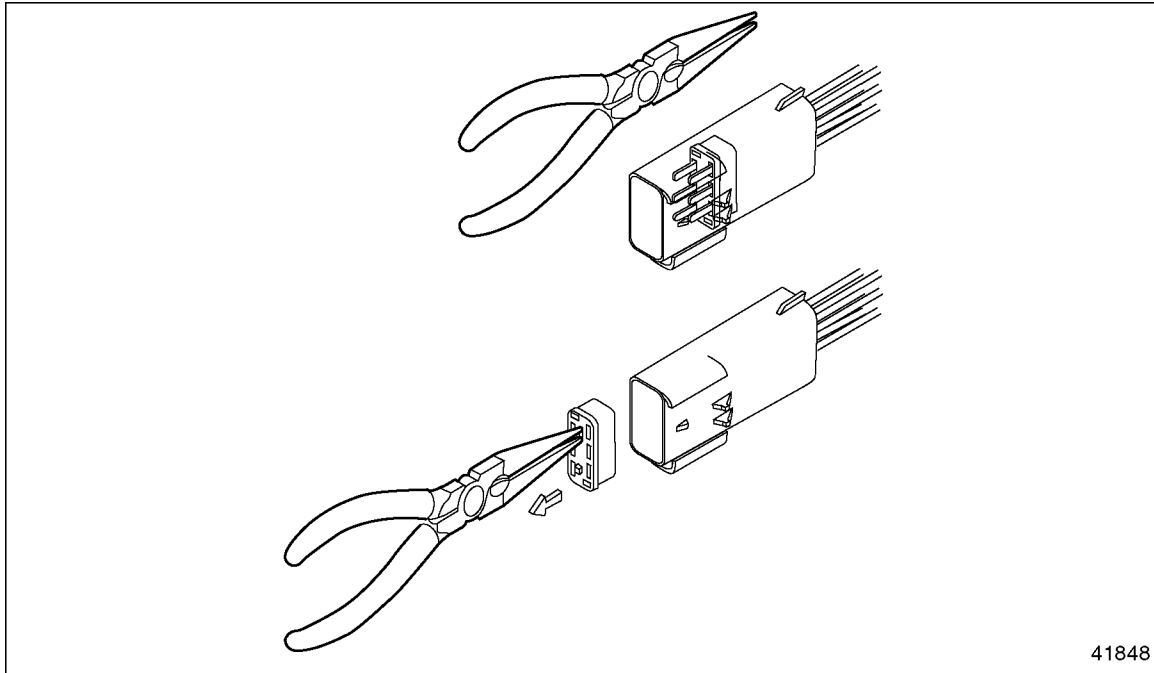

Figure 3-41 Removing the Terminal
1. Using pliers pull out the red Terminal Position Assurance (TPA) (see Figure 3-41).
- Pull the cable back through the connector (see Figure 3-41).